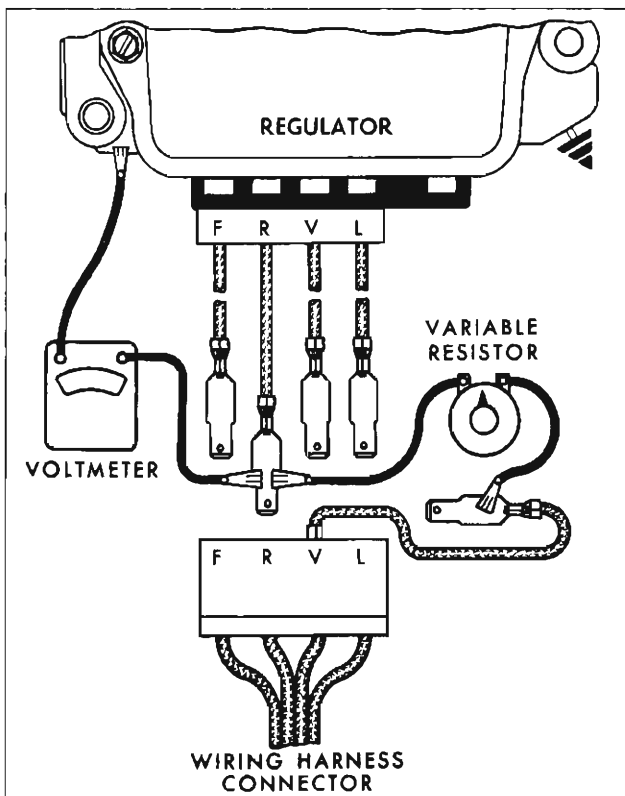

Fig. 16—Checking Field Relay Closing Voltage
1. Make connections as shown in Figure 16 using a 50 ohm variable resistor.